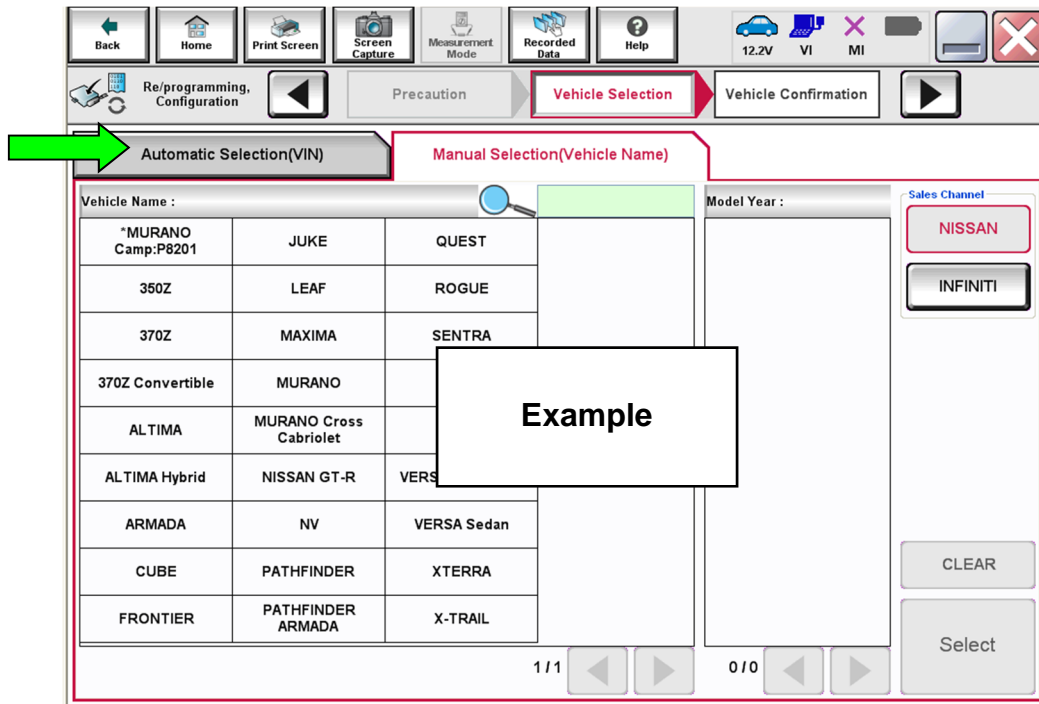

Figure 6
- If the screen in Figure 6 does not display, skip to step 15.